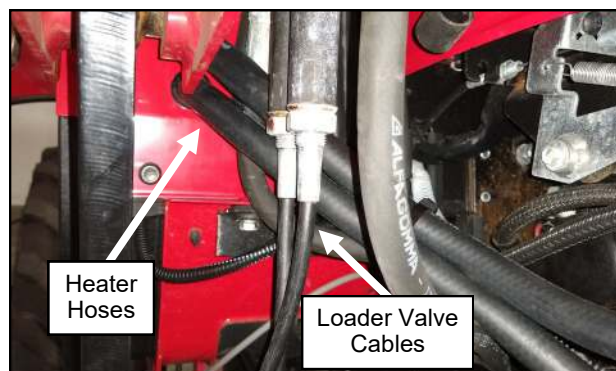

Fig. 18.2 (Heater Hose Routing)
**18.2** Slip one of the provided 3/4" snap bushings onto each end of the 5/8" diameter hose. Run the hoses from the engine compartment, behind the loader valve cables between the loader arm and loader valve hydraulic hoses, then thru the large holes found on the right side of the cowl. See Figure 18.2.